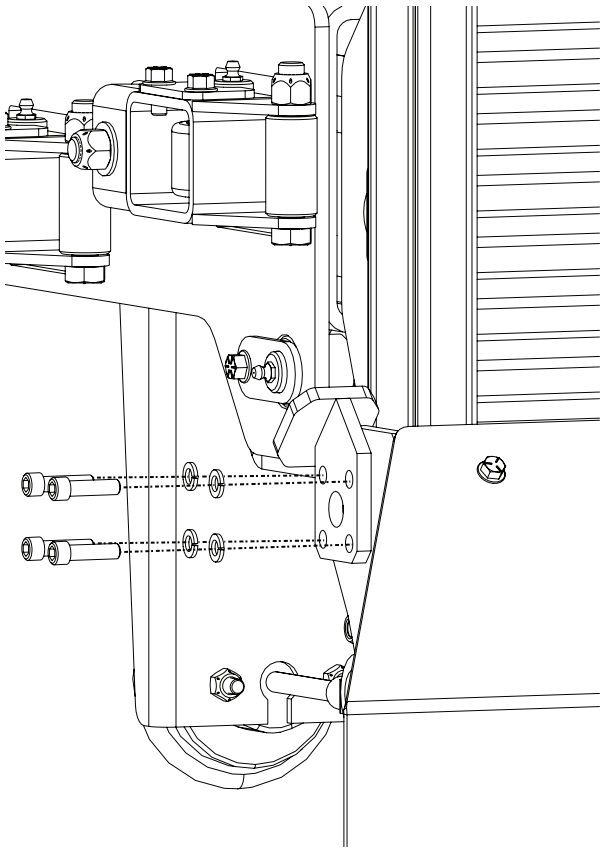

Figure 2
6. Use a 1/2" drive ratchet and a 5/16" Allen head socket wrench to loosen each bolt on that roller (Figure 2).